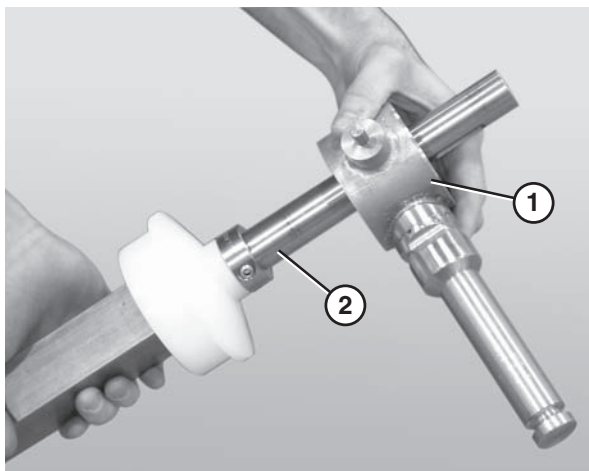

Figure 81
- Slide the second bearing shaft assembly, or the motor mount bracket (**Figure 81, item 1**), onto the longer end of the drive spindle (**Figure 81, item 2**).